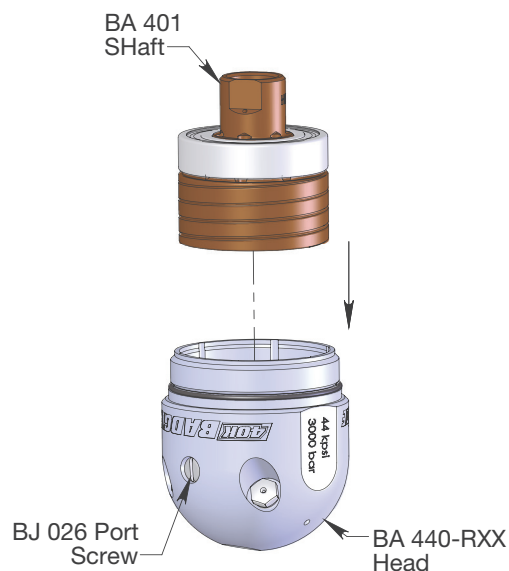

Figure 13: For Steps 10-12
10. Detail 10. Place Head in a vice as shown in Figure 13.